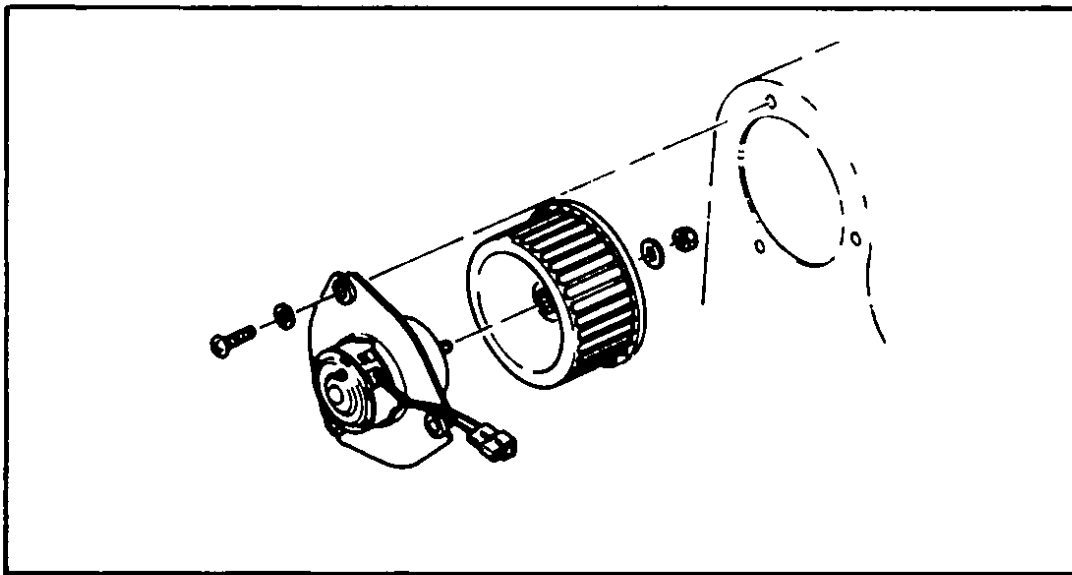

Fig 99 Fan and fan motor – Model B210
- 8 Remove three screws securing the fan motor to the heater box and remove the fan motor, Fig 99. Installation is the reverse of removal